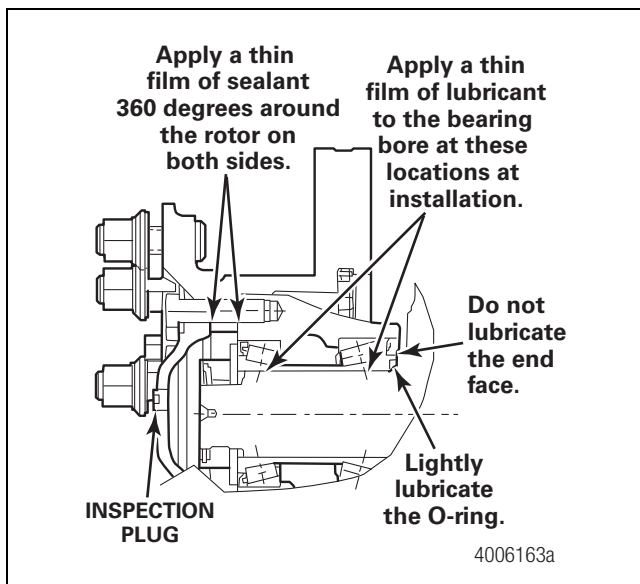

Figure 6.14
2. Apply a light coat of anti-seize lubricant such as Molykote-D paste to the bearing bore and to the O-ring before installing the hub and spindle. Do not apply any lubricant to the spindle or on the bearing end face. The spindle should be clean and free of any contamination. Figure 6.14.